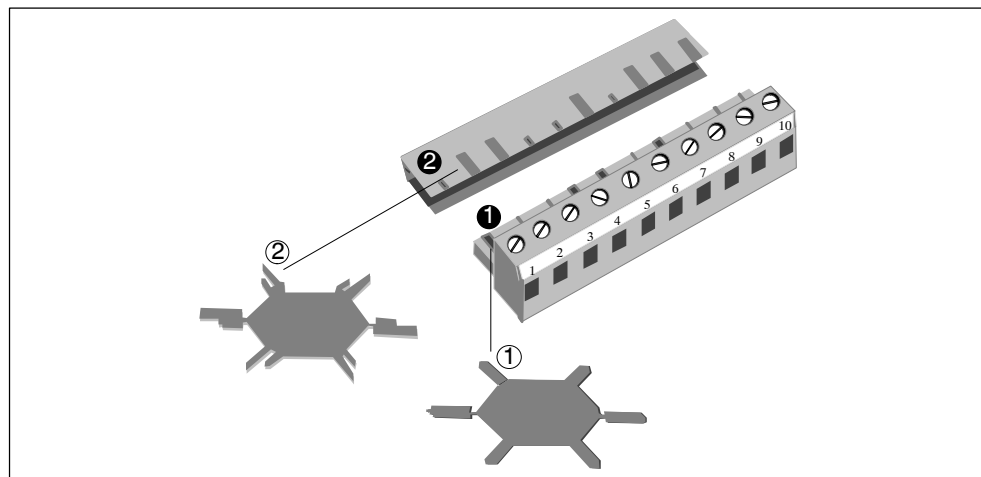

Figure 2-14 Connectors with Coding Profiles and Tabs
Use the coding profiles ① and the coding tabs ② to prevent the connectors from being interchanged, without loss of a connecting pin (cf. Fig. 2-14).